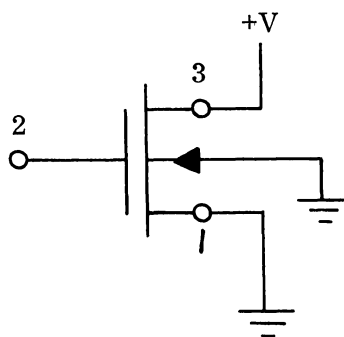

FIGURE 1
2. Which type of MOSFET is shown in figure 1? _____